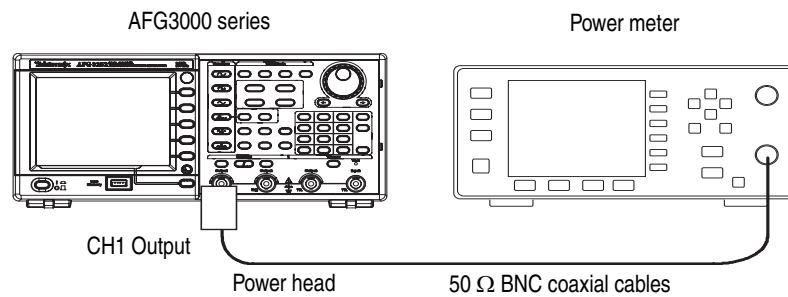

Figure 4-6: AC flatness tests
1. Connect the arbitrary/function generator to the power meter with a power head as shown in Figure 4-6.